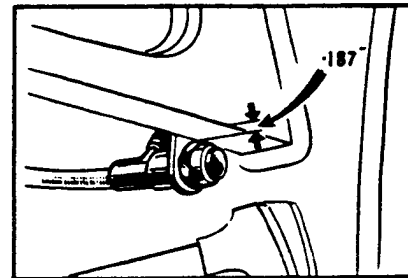

FIG. 9.
7. Fit the press button control on the bottom right-hand corner of the fascia board as shown in Fig.9. (N.B. On left-hand drive cars, the press button control is fitted on the bottom left-hand corner, using the special mounting bracket, R-4320).